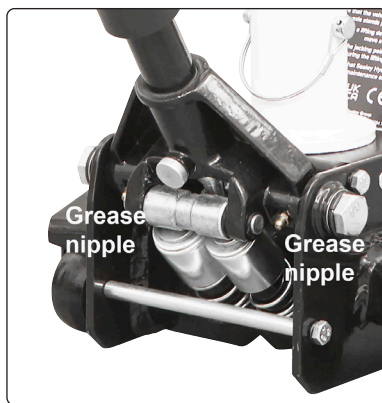

fig.6
- 7.1.2. Grease points: front wheels and handle pivot see fig.6.